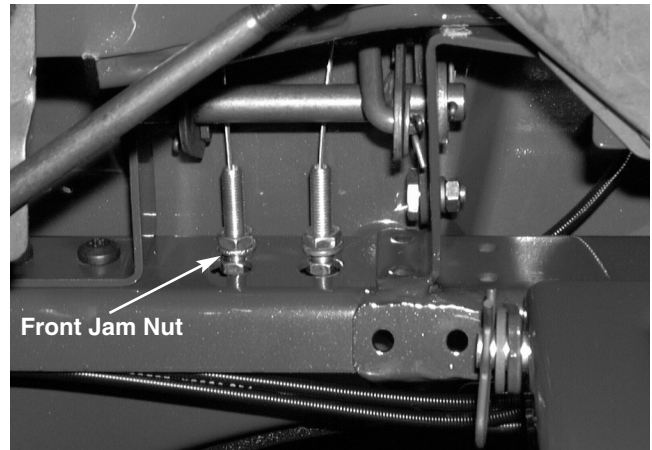

FIGURE 9.
- 30). By hand, loosen the front jam nut several full turns. See Figure 9.